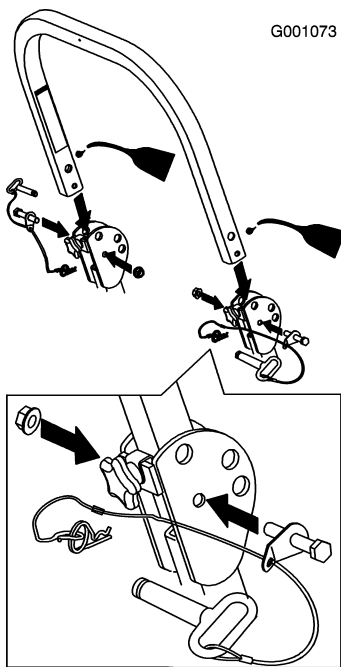

Figure 8
4. Loosely install the center roll bar section using 2 bolts (1/2 x 3-1/4 inch) and 2 flange nuts (1/2 inch) (Figure 8).